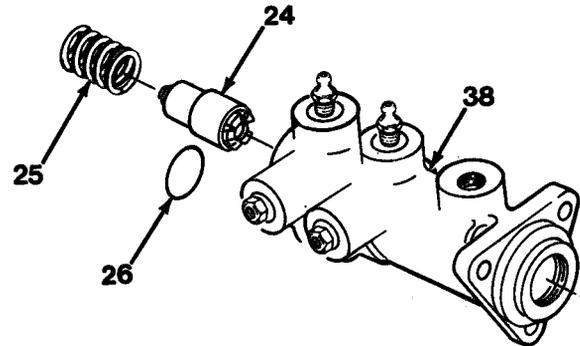

Figure 13-7
16. Remove piston (24) and spring (25) from housing (38, Figure 13-7).